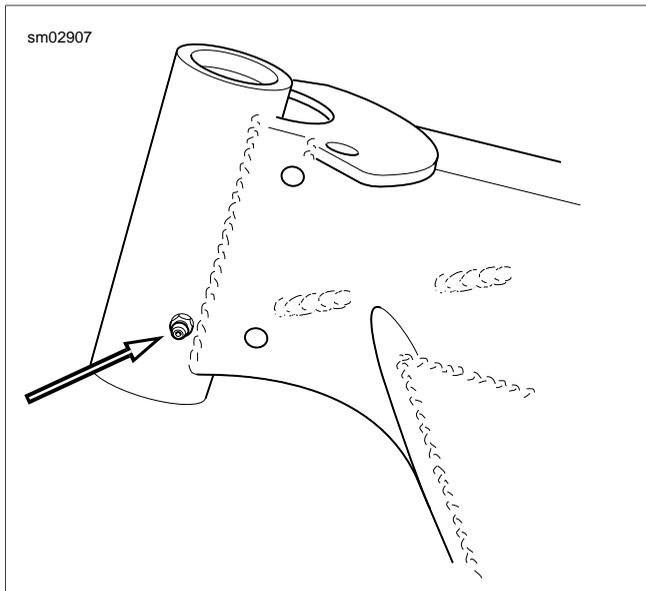

Figure 1-37. Steering Head Bearing Grease Fitting
1. See Figure 1-37. Turn handlebar to the right fork stop to access grease fitting at the left side of the steering head.